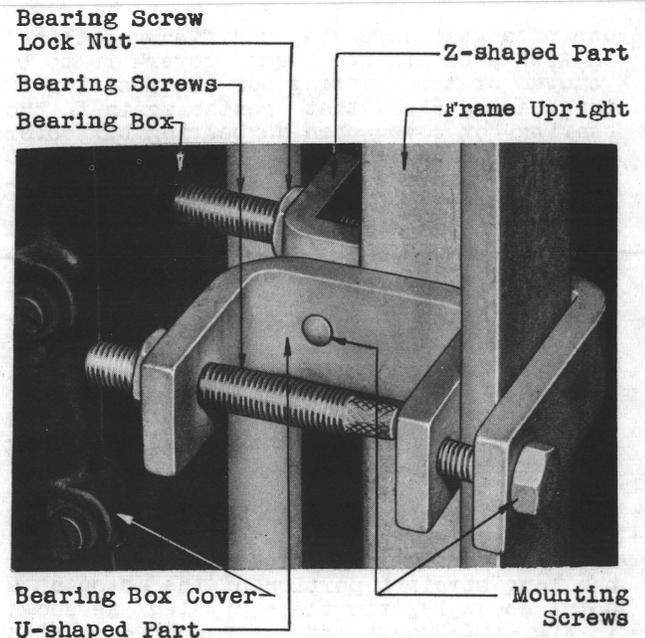

Fig. 3 - D-159143 and D-159463 Bearing Box Stop
3.10 Place the Z-shaped part of the stop around the right hand side of the frame upright with the tip of the bearing screw toward the bearing box. Place the U-shaped part against the left hand side of the frame upright so that the open side of the part is toward the left and the tip of the bearing screw is toward the bearing box cover as shown in Fig. 3.